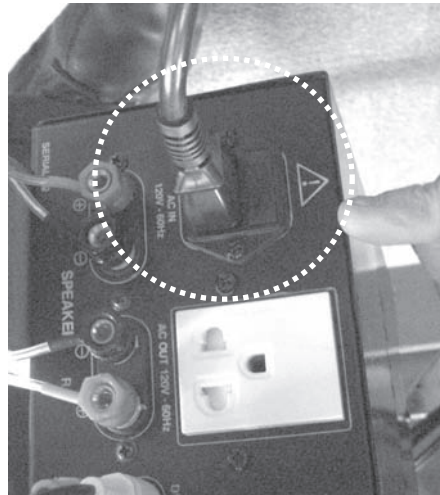

Fig. 15
15. Plug the socket end of the power cord into the recessed plug receptacle on the Amp. See Figure 15.